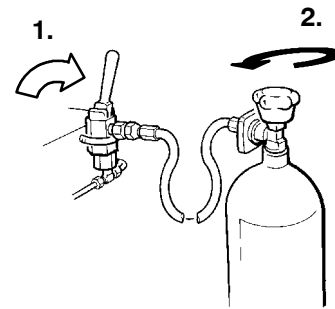
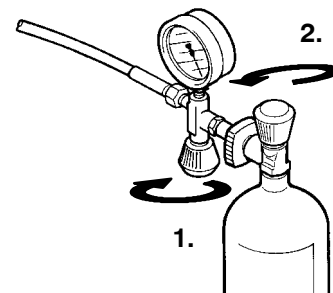

Fig. 22 Opening of filling valve
Fig. 23 Opening of filling valve
- First open filling valve. Fig. 22 and Fig. 23